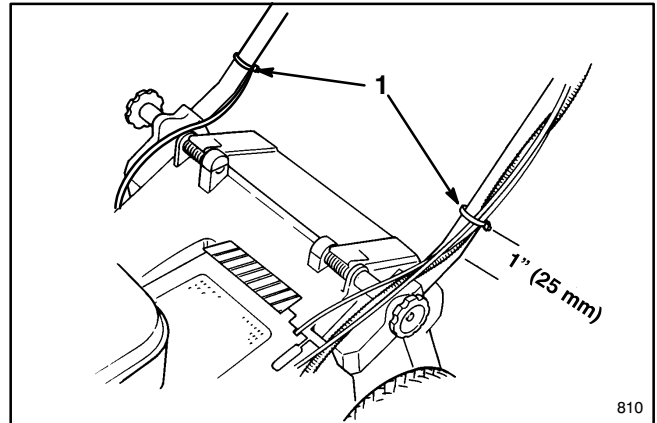

Figure 3
6. Use cable ties to secure cables to lower ends of handle tubes (Fig. 3). Cable ties should be positioned 25 mm (1") from bend in handles. See Figure 3 for correct placement.